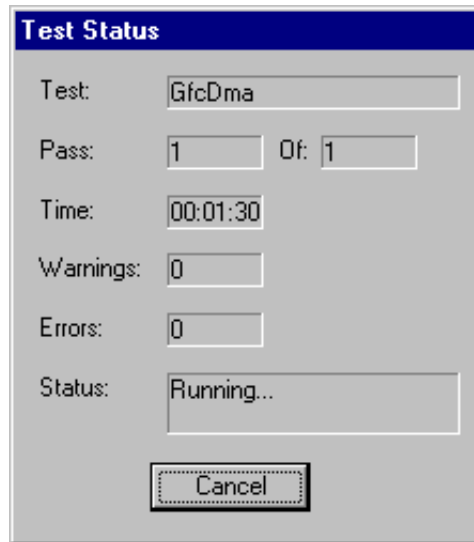

Figure 4-8. Test Status Box
- The Test Status box opens on top of the panel on the left. See Figure 4-8 for an example.